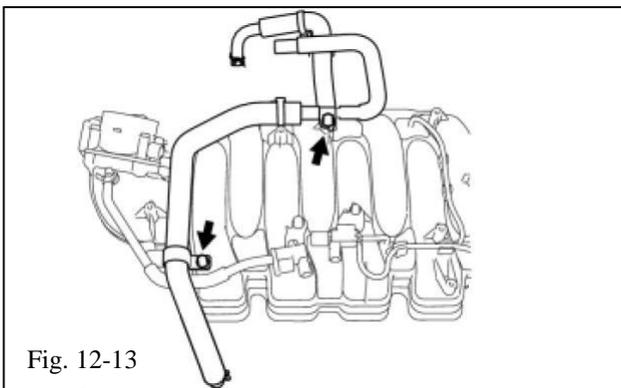

Fig. 12-13
- (r) Remove the 2 bolts and the ventilation hose from the intake manifold (Fig. 12-13). Set the hose aside for later reuse.